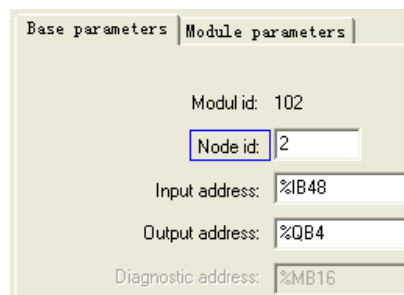

Figure 11.54: Setting of LK750 Communication Address
- After high-speed modules are added in the configuration, each high-speed module will have a default “Node ID”, as shown in Figure 11.54. This address is not the correct communication address of the high-speed module (which is determined by the slot) but an address automatically assigned to the module by the software according to the adding order.